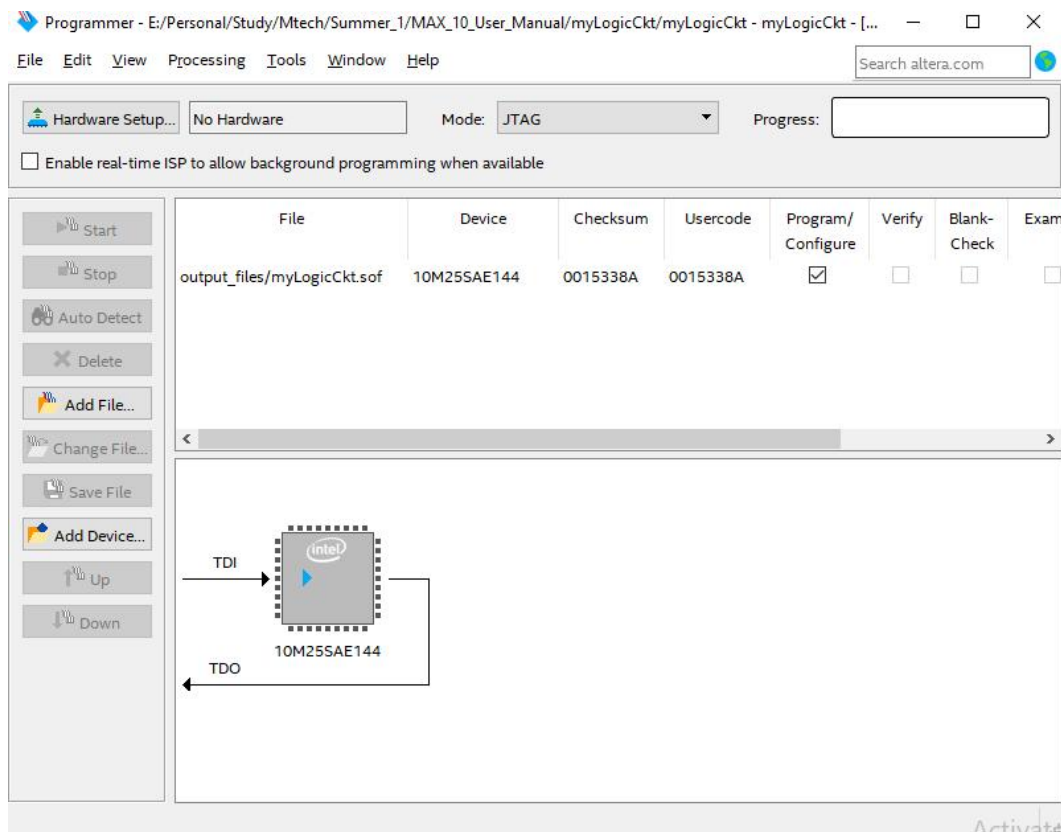

Figure 8: Quartus programmer tool window
- Now go to Tools → Programmer. A programmer window will open. You should see the project output file myLogicCkt.sof in this window as shown in figure 8. If not then click on Add File button present on left panel, your project directory will open up. Navigate to the output\_files folder and select .sof file. If this file is not present then you may need to create a fresh project from the start.